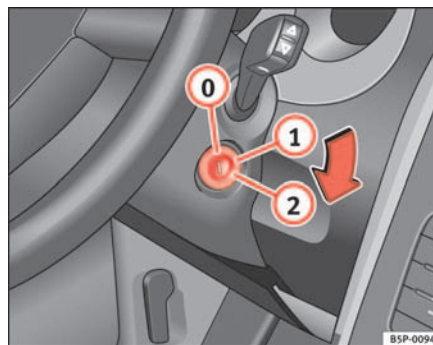

Fig. 130 Ignition key positions
In the position ⇒ fig. 130 the ignition and the engine are OFF and the steering may be locked.
- Turn the ignition key to position ⇒ page 159, fig. 130 ①. The indication lamp  will light for engine pre-heating.
- When the warning lamp goes out, turn the key to position ② to start the engine. Do not press the accelerator.
- Turn the ignition key to position ⇒ page 159, fig. 130 .